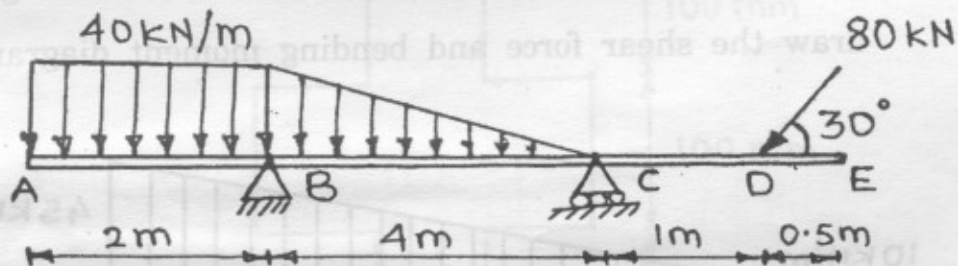

Fig. 3 (a)
3. (a) For the beam loaded as shown in the Fig. 3 (a), draw the shear force and bending moment diagram, showing all the salient points. [8]